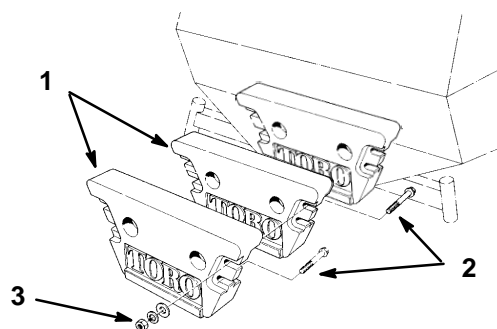

Figure 3
1. Attach two (2) weights onto existing weight with (4) 1/2 x 3-1/2" (89 mm) bolts, (4 ea.) 1/2" washers, 1/2" lock washers and 1/2" nuts (Fig. 3).